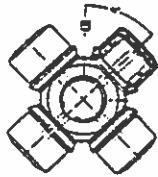

Fig. 12.
- 1A. Cross and bearing lubrication for Series 200, 201, 211, 221, 231, 241, 251, 261, and 271. To lubricate, rotate drive shaft so that the oil plug is at a 45° position, Fig. 12. Remove oil plug and fill with SAE 140 GEAR OIL.